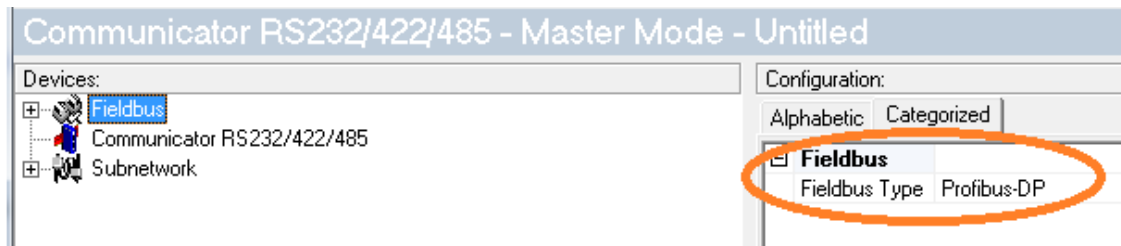

Figure 9 - FieldBus configuration
- 4- Select the **Fieldbus** part and check that the **Fieldbus** type is set to **Profibus-DP**, see figure 9.